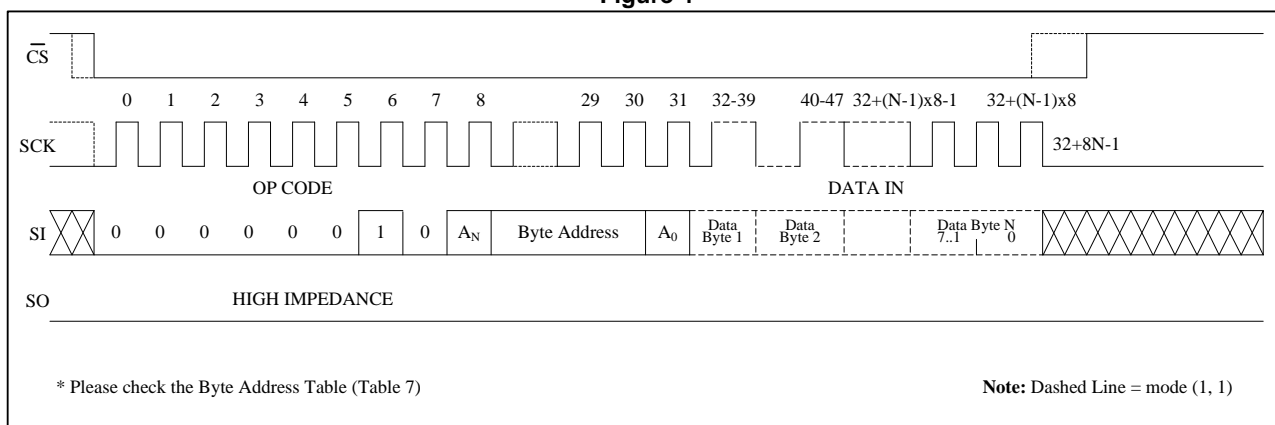

Figure 5
Page Write: After sending the first data byte to the BL25CM2A, the host may continue sending data, up to a total of 256 bytes, according to timing shown in Figure 5. After each data byte, the lower order address bits are automatically incremented, while the higher order address bits (page address) remain unchanged. If during this process the end of page is exceeded, then loading will “roll over” to the first byte in the page, thus possibly overwriting previously loaded data. Following completion of the write cycle, the BL25CM2A is automatically returned to the write disable state.
Write Identification Page: The additional 256-byte Identification Page (IP) can be written with user data using the same Write commands sequence as used for Page Write to the main memory array (Figure 5). The IPL bit from the Status Register must be set (IPL = 1) using the WRSR instruction, before attempting to write to the IP. Prior to any write to the Identification Page, the Write Enable Latch must be set (WEL=1) by sending the WREN instruction.